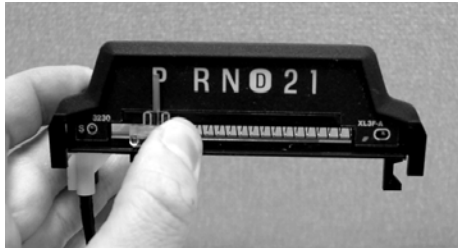

Figure 14
- A. Slide the small Orange PRNDL pointer, with your hand, over to the park indication “P” and remove (pull) the small wire from the back of pointer (See figure 14 & 15).